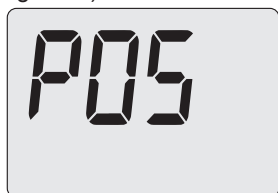

Fig. 8.27
- Scroll through the various menus by pressing the keys 12 (back) or 13 (forward), until the LCD display shows the code **P05**, indicating entry into “parameter P05” (Fig. 8.27).